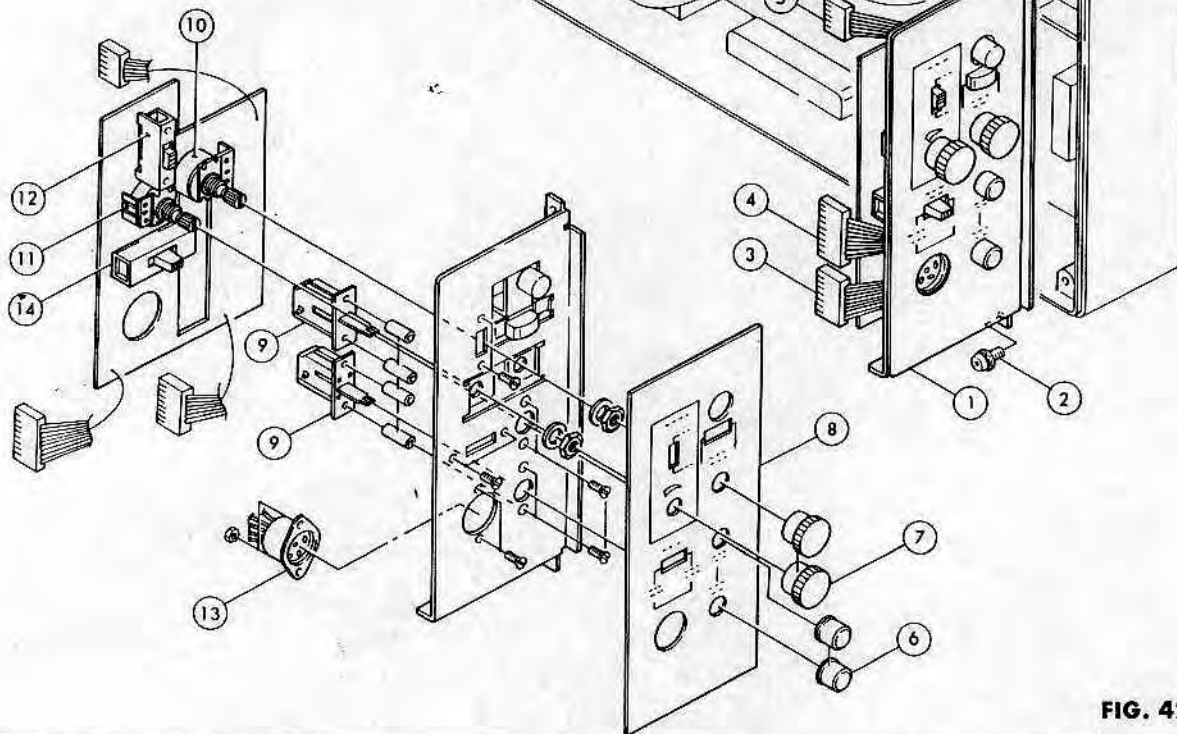

FIG. 42
TROUBLESHOOTING: (Refer to Fig. 42)
1. Unscrew the (2)x2 and disconnect the (3)(4)(5). Detach the (1) from the projector.
2. Pull out the (6)x2, (7)x2 and peel off the (8).
3. For further disassembly, refer to Fig. 42.